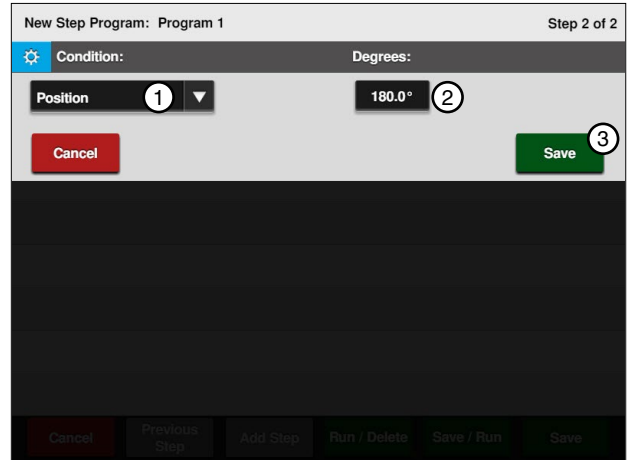

Figure 109-2 1. Condition 3. Save
5. Program the position condition for this step. Refer to Figure 109-2.